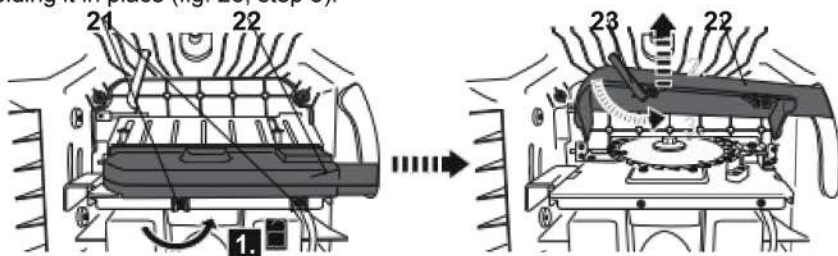

Fig. 26
> Loosen the attachment screws (21) and slide the lower blade guard (22) outwards (fig. 26, steps 1 and 2). Turn the handle (23) and hook it onto the lower blade guard, holding it in place (fig. 26, step 3).